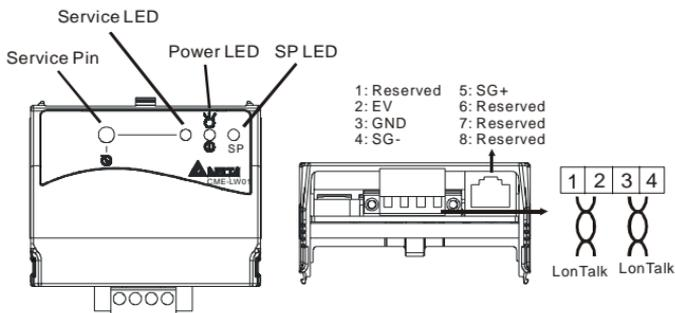

Figure 2-2
3. LED indicator: as shown in the figure 2-2.